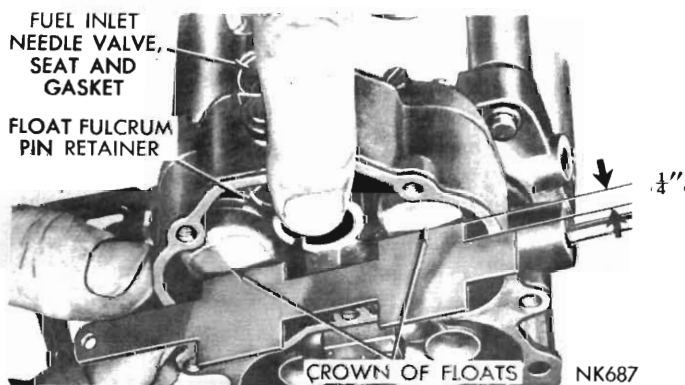

Fig. 9 - Measuring the float setting
(1) Install the floats with the fulcrum pin and pin retainer in the main body.
(2) Install the needle, seat and gasket in the body and tighten securely.
(3) Invert the main body (catch the pump intake check ball) so that the weight of the floats only, is forcing the needle against the seat. Hold finger against retainer to fully seat the fulcrum pin.
(4) Using Tool E14C15A or a "T" scale, check the float, as shown in Fig. 9. There should be  $\frac{1}{4}$  inch from the surface of the fuel bowl to the crown of each float at the centre.